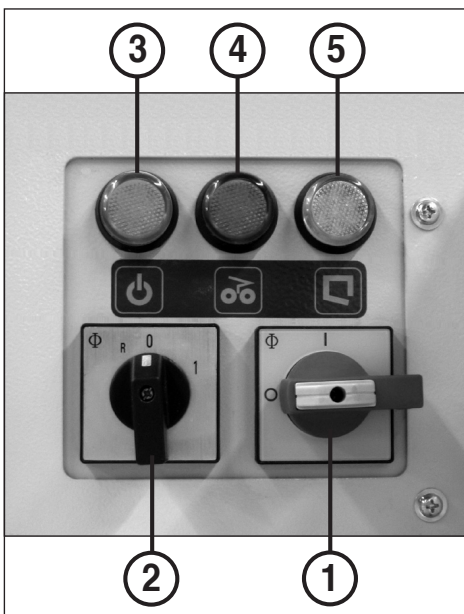

fig. 7
2. Place rotary switch (2) in position „1“ (fig. 7).
OPERATING FUNCTIONS (Fig. 7):
Note: Each time the machine is switched on, the multifunction relay is automatically reinitialised. This is indicated by the control displays (4 and 5) (fig. 7) which blink for a few seconds.